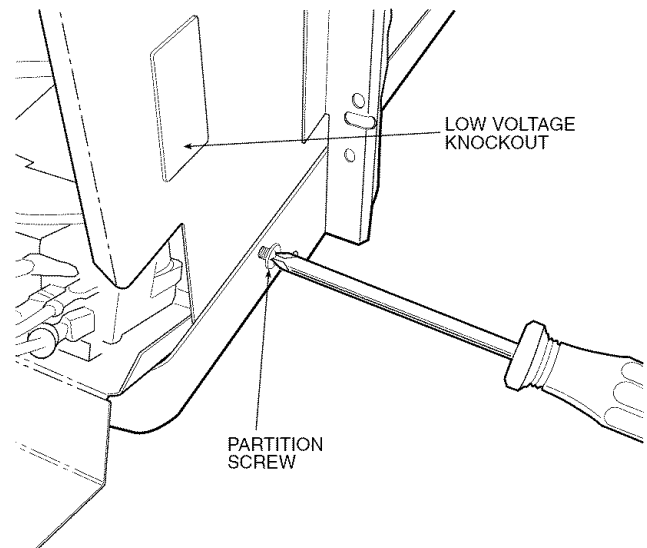
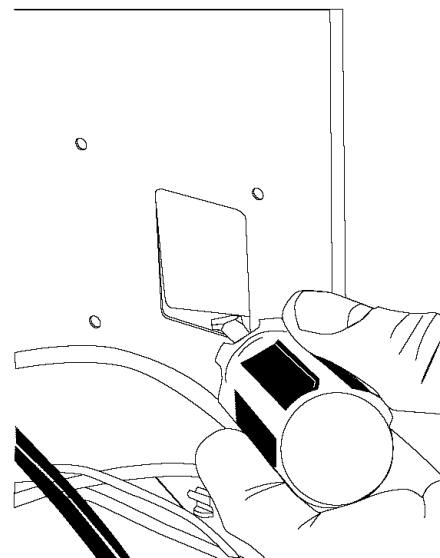
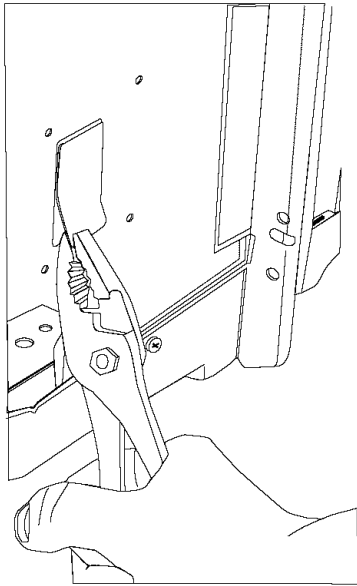

Fig. 4 — Basepan Partition Screw Removal
Fig. 5A — Preparation of Low-Voltage Knockout for Removal
Fig. 5B — Removing Low-Voltage Knockout
Step 4 — Locate low voltage knockout on side of control box cover. See Fig. 4. From inside of unit, use screwdriver to push out one corner of low voltage knockout. See Fig. 5A. Remove low voltage knockout with pliers. See Fig. 5B.
Step 5 — Remove existing partition screw located on side of basepan. Save the screw. See Fig. 4.
Step 11 — Install the EM control assembly on the bottom of the control box. Line up EM plate attachment hole with hole in basepan where screw was removed in Step 5. Reattach partition screw, securing the partition and EM control to the basepan. See Fig. 4 and 10.